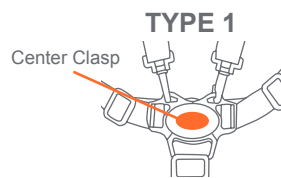

Fig. 16
- 16)** • To release, push Button on Center Clasp, the two Harness Buckles will pop free (Fig. 16).